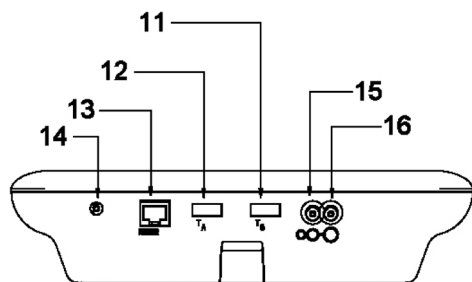
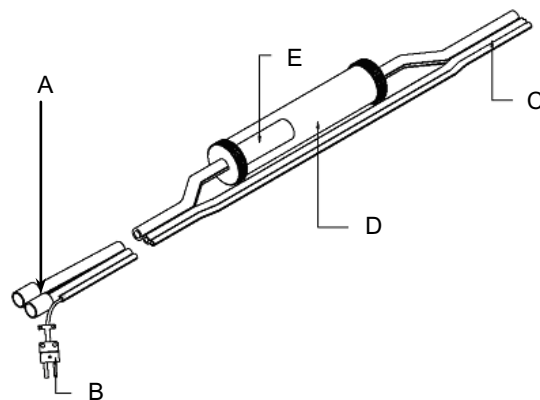

Figure 1
Figure 2
The three circles below 15 and 16 in Figure 1 are in the same configuration as the probe hose shown in Figure 2. A in Figure 2 is connected to 16 in Figure 1. B in Figure 2 is inserted into Number 11 in Figure 1. The filter (E in Figure 2) in the water trap (D) must be positioned towards the connection coupler (A) as shown.